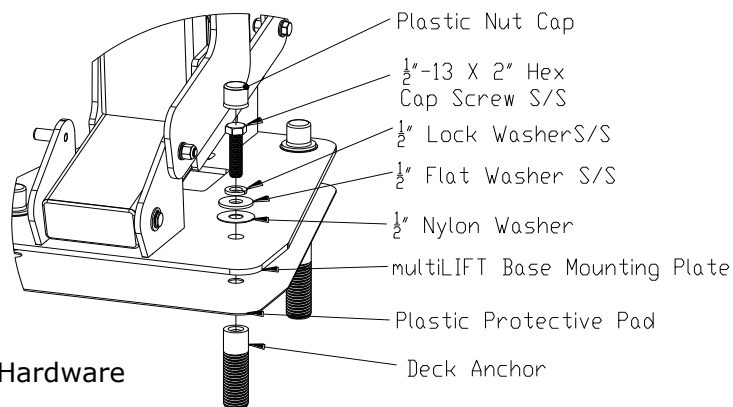

Figure 3. Mounting Hardware
6. Locate the deck mounting hardware in the accessory carton and use the hardware to fasten the multiLift™ to the anchors as shown in **Figure 3**. Tighten the bolts down until the lock washers are fully compressed. **Note: Anti-seize compound must be used on the stainless steel mounting bolts to prevent seizing in the deck anchors.**